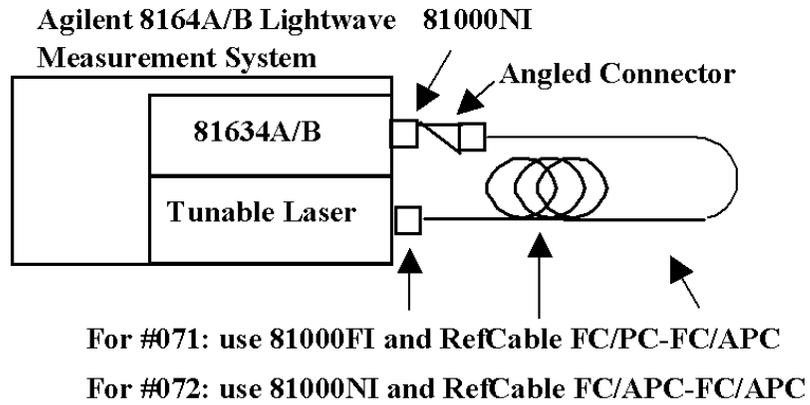

Figure 27 Test Setup for Power Linearity Tests using built-in attenuator
- 1 Set up the equipment as shown in Figure 27 on page 97.